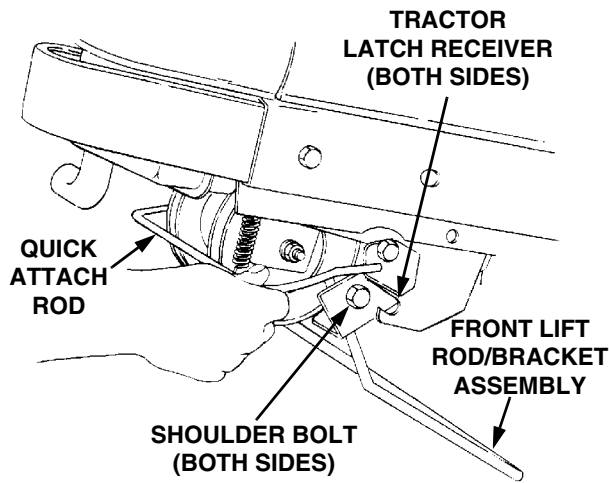

Figure 43
9. From the front of the tractor, push downward and hold the tractor quick-attach rod. Pull the front lift rod/bracket assembly forward to release the shoulder bolts on each side of the bracket from the left and right tractor latch receivers. Release the tractor quick-attach rod (Refer to Figure 43).